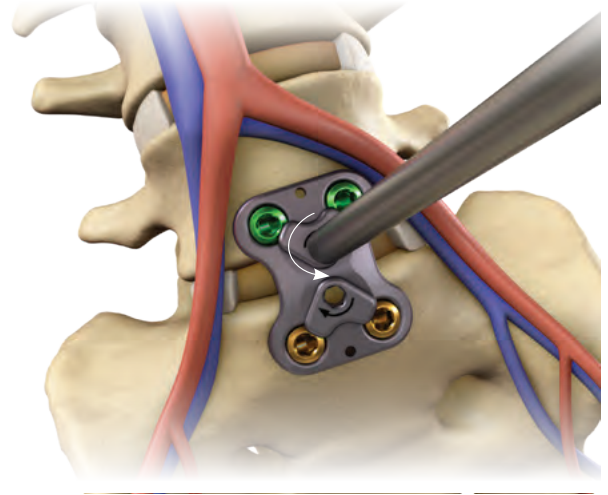

Figure 29
- Insert the tip of the self-retaining screwdriver into the hex cap on the secure-twist locking cap. Rotate the cap counterclockwise until it is clear of all screw heads (Figure 29).